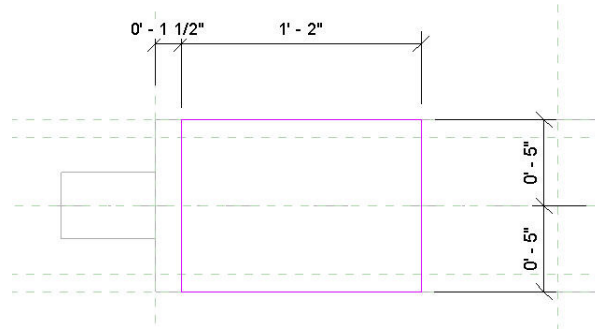

Figure 41. Constraining the sketch.
7. Add the constraining dimensions as shown in Figure 41. Note that none of the dimensions are based on parameters. Make sure you lock all dimensions to ensure that they always stay constant no matter what happens with the rest of the geometry.